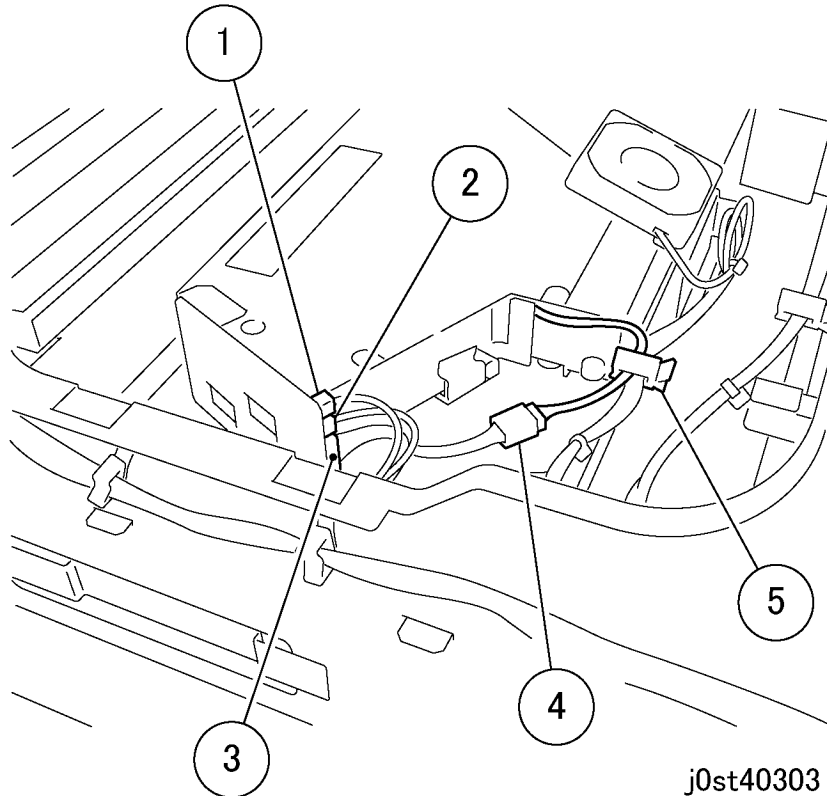

Figure 4 Disconnecting the ROS Unit connectors (x4) (j0st40303)
6. Disconnect the ROS Unit connectors (x4). (Figure 4)